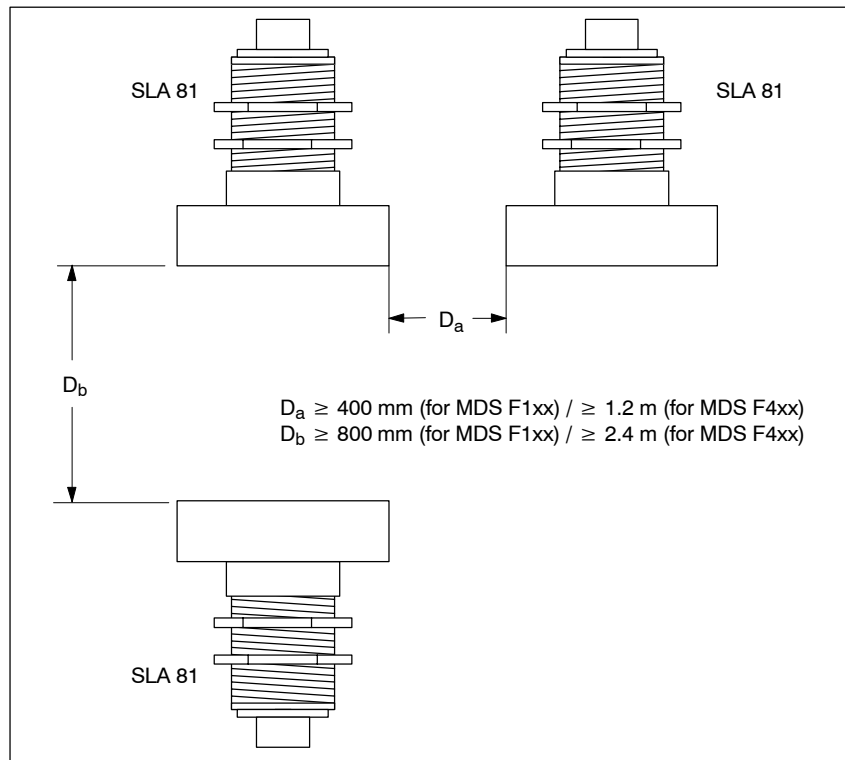

Figure 5-16 Distance D: SLG 82
Minimum distance from SLA to SLA (D)	See figure 5-16.